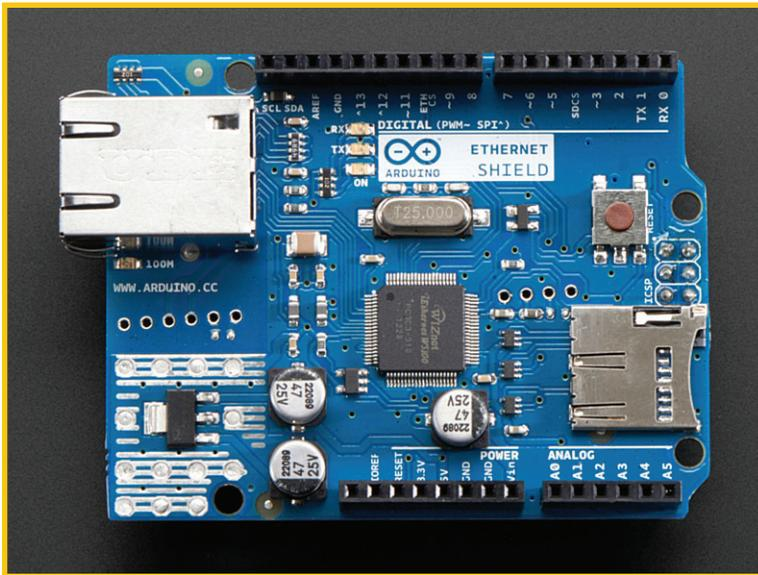

FIGURE 13.3 A lot of code has been written for the Arduino Ethernet Shield. Credit: Adafruit Industries.
Arduino's Ethernet Shield (seen in Figure 13.3) is one of the earliest products aimed at bringing Internet connectivity to the Arduino world. It is equipped with a standard RJ45 Ethernet jack and a secure digital (SD) card slot. The Internet functionality uses only four pins, so you're often able to stack another shield on top.